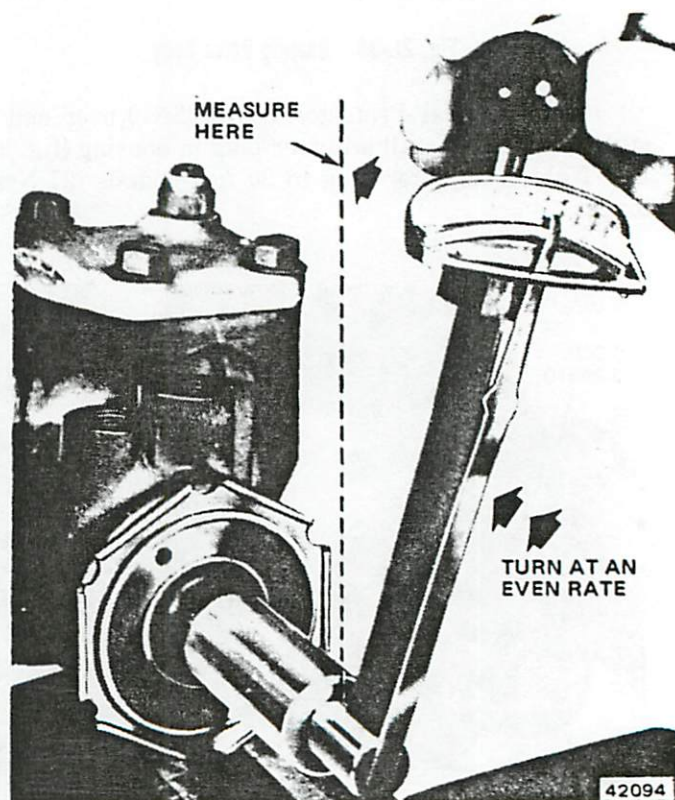

Fig. 2L-42 Measuring Wormshaft Bearing Preload
(3) Measure back (counterclockwise) 1/2 inch (13 mm) from first index mark and remark housing (fig. 2L-41).
(4) Turn adjuster plug counterclockwise and align adjuster plug hole with second mark made on housing.
(5) Install adjuster plug locknut. Place spanner wrench on adjuster plug to prevent it from turning and tighten locknut to 85 foot-pounds (115 N•m) torque using Tool J-25194. Do not allow the adjuster plug to turn while tightening locknut.
(6) Turn stub shaft clockwise to stop, then turn stub shaft back one-quarter turn.